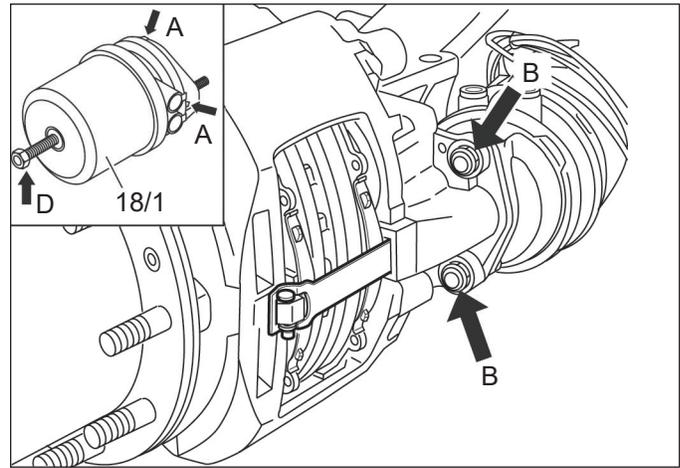

Figure 4 – Piston-Style Spring Brake Actuator Caging and Removal
4. Insert the release tool (T-bolt) through the release tool keyhole and into the pressureplate. Pull on the release tool to seat it properly in the pressure plate. See Figure 4.
2. While supporting the brake chamber in position, remove and discard the brake chamber mounting nuts (Figure 4, arrows marked "B"). Remove the brake chamber.
4. Taking care not to get any grease onto the diaphragm, install it in place on the non-pressure housing. See *Figure 4* to see the correct position to place the alignment of the diaphragm and the clamp in the next step.